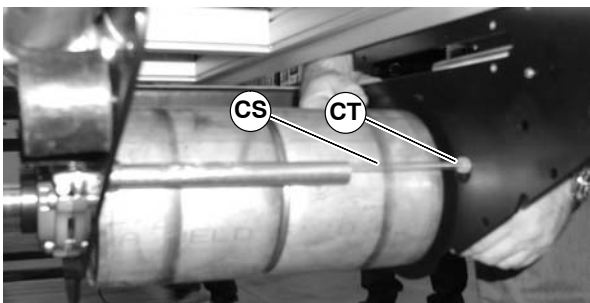

Figure 79
7. Disconnect flexible air hose (CS of Figure 79) from fitting (CT).